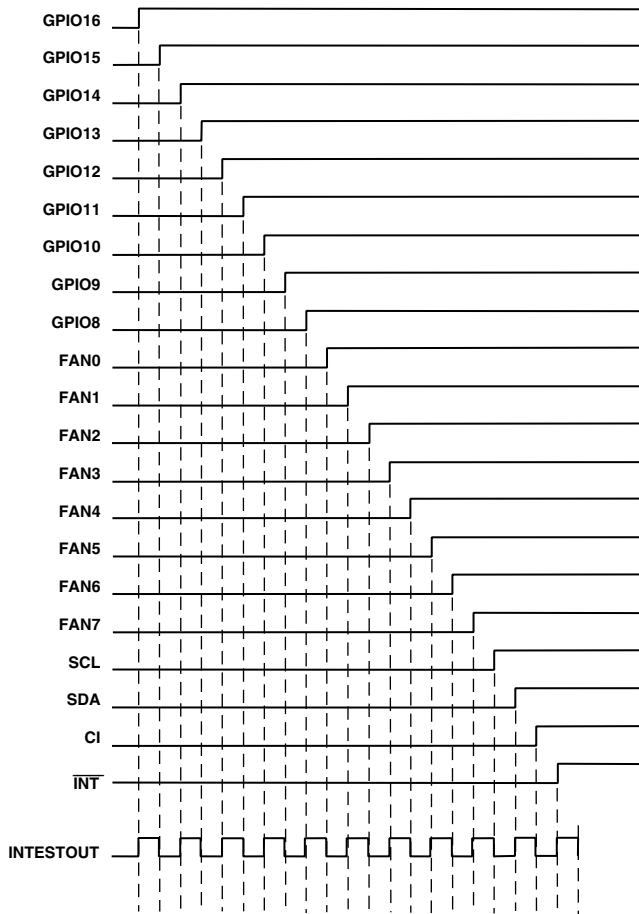

Figure 26. NAND Tree Test Taking Inputs High In Turn
1. Start with all inputs low and take them high in turn, starting with the input nearest to NTEST\_OUT (GPIO16/ $\overline{\text{THERM}}$ ) and working back up the tree to the input furthest from NTESTOUT ( $\overline{\text{INT}}$ ). This should give the characteristic output pattern shown in Figure 26, with NTESTOUT toggling each time an input is taken high.